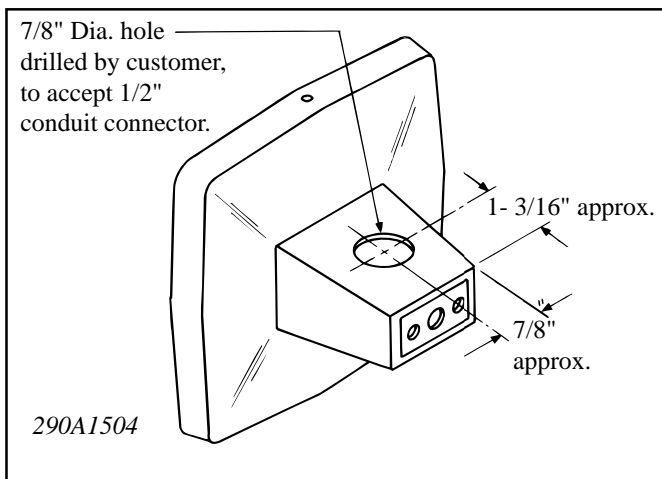

Figure 1.
1. See figure 1. Drill a 7/8" hole in the wall/ceiling mounting bracket, as indicated in the figure. Use caution to avoid damaging the bracket.